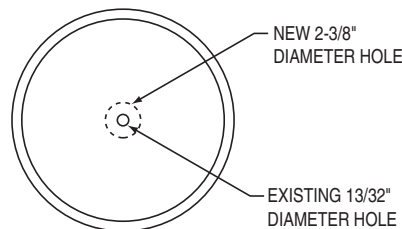

Figure 4.
5. For FNS (Fiberglass) tanks, use a 2-3/8" diameter hole saw to carefully cut a larger hole in the tank top. The 2-3/8" diameter hole should be centered on the original 13/32" diameter hole as shown in Figure 4. DO NOT allow hole saw to scratch the outside surface of the tank top past the new 2-3/8" diameter hole. This is an o-ring sealing surface and scratches in this area will cause the o-ring seal to leak.
7. For NS (Stainless Steel) tanks, a good quality steel punch must be used to make the larger hole. It may be necessary to use 2 punches; (1) to enlarge the hole from 13/32" diameter to accommodate a larger mandrel for the 2-3/8" diameter punch and (1) 2-3/8" diameter punch. The punches must be capable of punching through .060 thick steel. Follow punch manufacturer's instructions on use of punch in making the larger hole. The 2-3/8" diameter hole should be centered on the original 13/32" diameter hole as shown in Figure 4. The final hole size should be 2-3/8" diameter minimum and 2-13/32" diameter maximum. Remove any metal burrs in the hole with a file. DO NOT allow punch or file to scratch the outside surface of the tank top past the new 2-3/8" diameter hole. This is an o-ring sealing surface and scratches in this area will cause the o-ring to leak. DO NOT enlarge the hole past 2-13/32" diameter. DO NOT USE A HOLE SAW TO MODIFY STAINLESS STEEL TANKS.